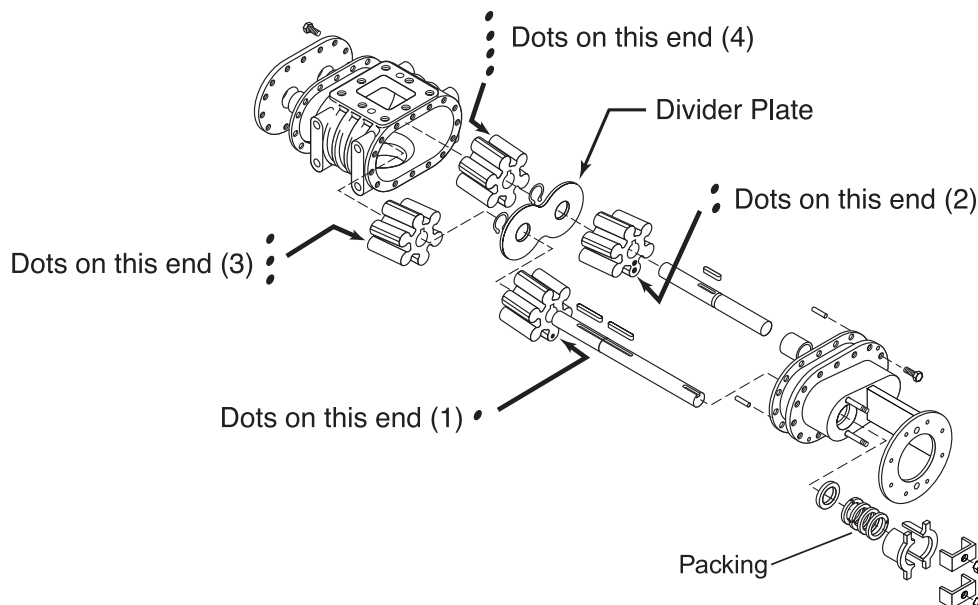

Figure 32. Etnyre Asphalt Pump
1. Remove 20 capscrews from perimeter of pump end plate (see **Figure 32**).
Each impeller gear set uses a series of dots on the gear faces to indicate position of the gears within the pump. Refer to **Figure 32** for proper positioning of the gears. The dots must face away from the divider plate (towards the ends of the pump). Install the impellers in numerical order.
Fluid contaminant profile requirements for Etnyre hydraulic units have been determined empirically based on measuring fluid quality in successful application, and in laboratory tests designed to evaluate hydraulic unit contaminant sensitivity. General contaminant levels have been developed based on this experience and are shown in Figure 32.
Some control valves may require better contamination limits than specified in Figure 32. Controls with small area screens or low force level values may be susceptible to malfunction from contamination.